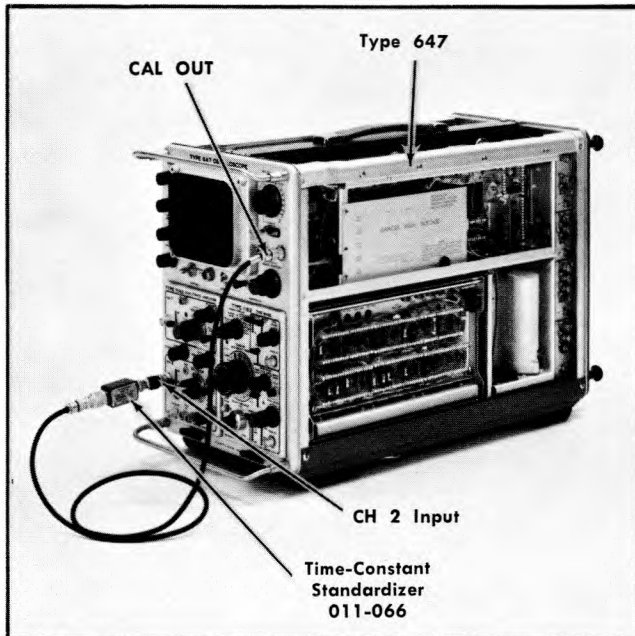

Fig. 4-3. Input time-constant standardization setup.
- b. Connect the input time-constant standardizer as shown in Fig. 4-3.